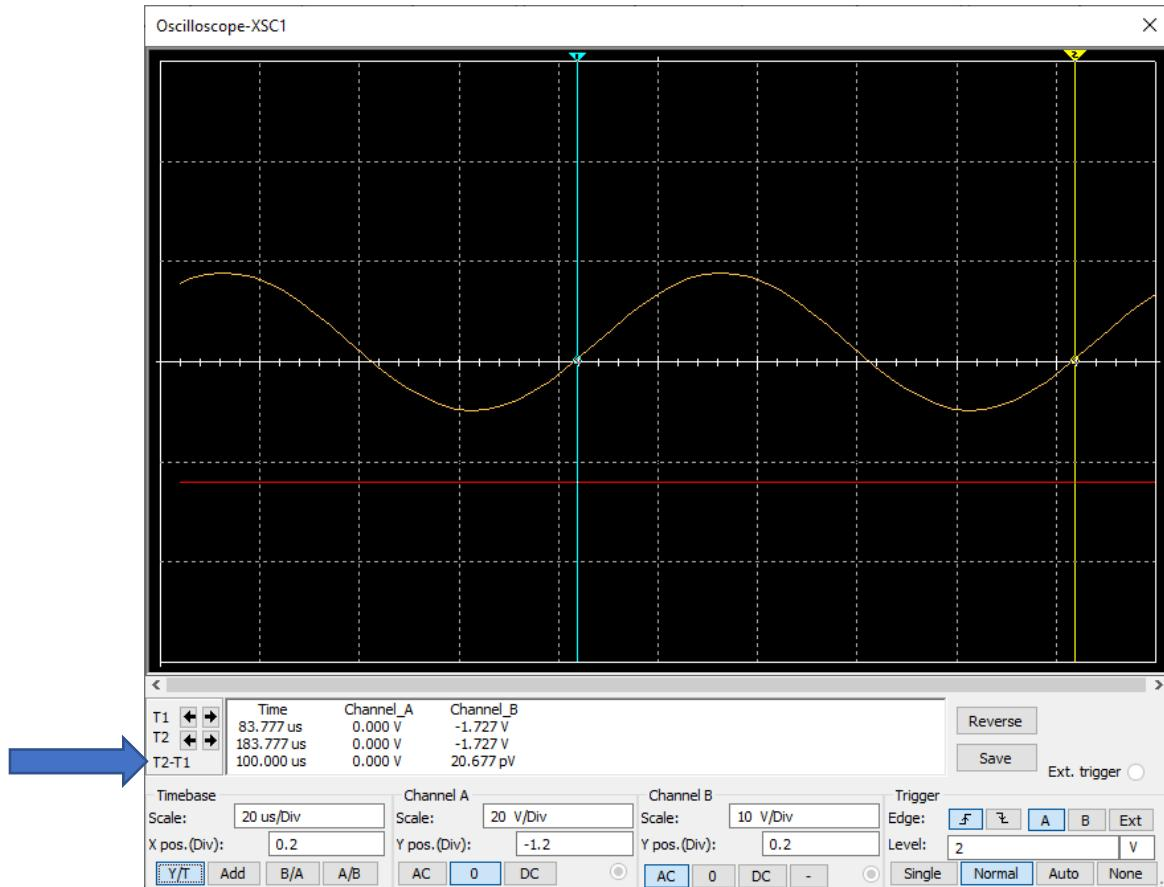

Figure 2-7: Measuring the period of the wave.
4. Next, we need the *Period* of the wave. That just means how long does it take to go 1 complete cycle? In Figure 2-7, I moved the blue cursor to the start of a cycle where the yellow trace crosses the X axis and moved the yellow cursor to the point where it crosses again (360°). The T2-T1 value is 100 μ s this time. Now we can compute the phase shift angle in degrees.